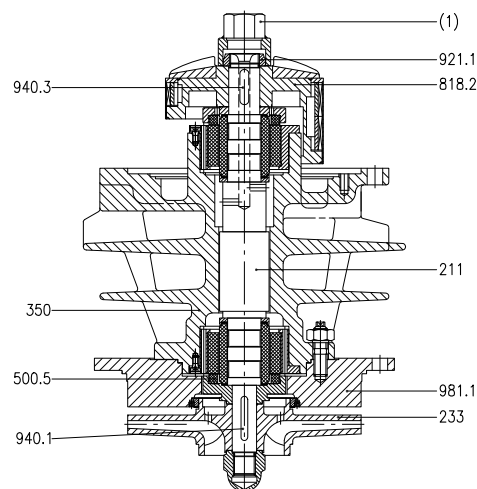

Fig. 22: Bearing bracket I - III
12. Loosen expansion screw nut 926.2 and remove intermediate flange 981.1 (see Fig. 22).